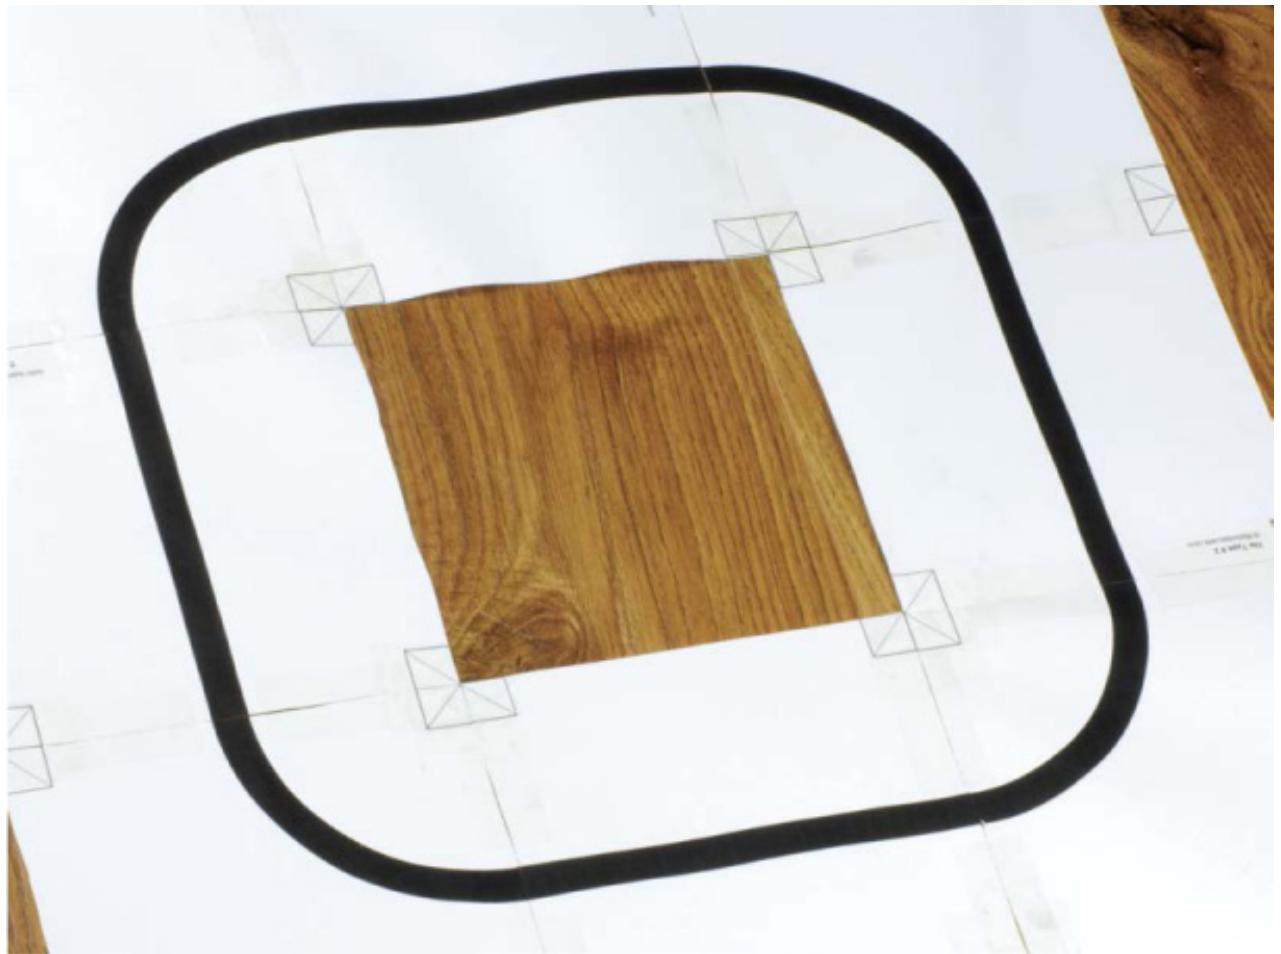

FIGURE 7-3 My assembled basic line-following track
4. To create a simple loop, like the one in Figure 7-3, print out four copies of Tile Type #2 (the straight line) and four copies of Tile Type #3 (the basic corner). You should be able to print these pages specifically using the printer dialog box of your PDF reader software. Ensure that each tile takes up one letter-size piece of paper.
5. Use scissors to cut around the dotted line of each tile. Then arrange them in a loop, as shown in Figure 7-3, and use tape along the length of the *underside* to join the edges of the tiles together. Your track is now complete!